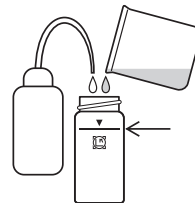

Fig.3
3. Pour the sample in the beaker into a cell and add pure water up to 25mL (up to the line). (Fig.3)